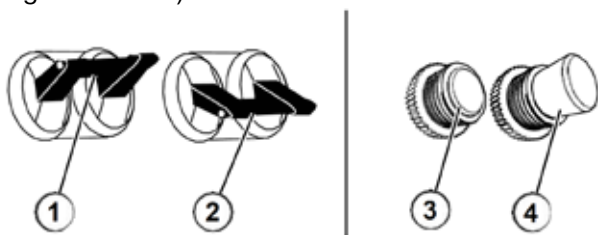

Figure 7 - Breakers - (1) Operating Position, (2) Tripped Position, (3) Operating Position, (4) Tripped Position
5. Make sure the circuit breakers are properly set (see Figure 7 below).